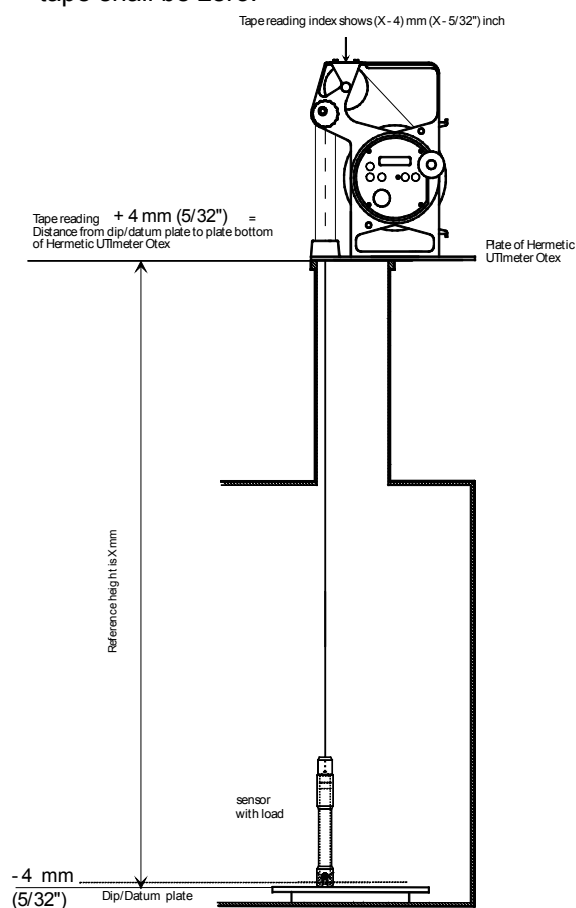

Figure 7-11
- When the sensing probe comes in contact with the dip/datum plate record the distance shown on the reading index. See Figure 7-11. The exact distance from the plate to the reading index is (reading + 6 mm) or (reading + 1/4" approx.) which is the reference height providing the reading index level has been adjusted to the zero ullage level of the tank. If the tank zero ullage is levelled above or below the reading index, an additional correction shall apply.